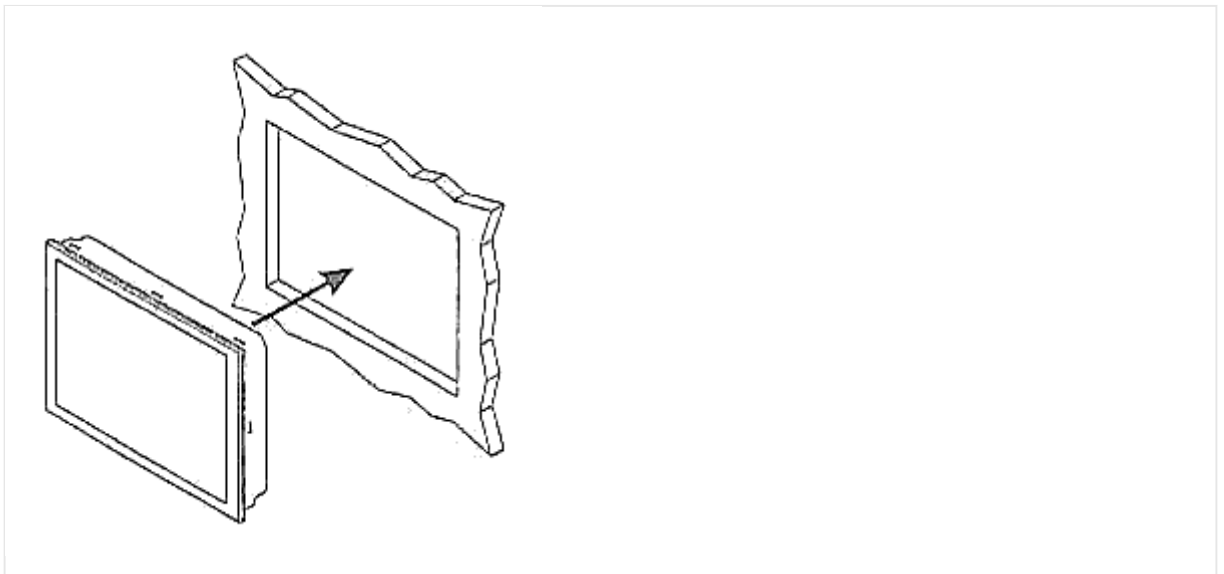

Fig. 10: Cutout schematic
- 1. ▷ Cut out the panel according to the dimensions in Fig. 7 or Fig. 10 or Fig. 13.